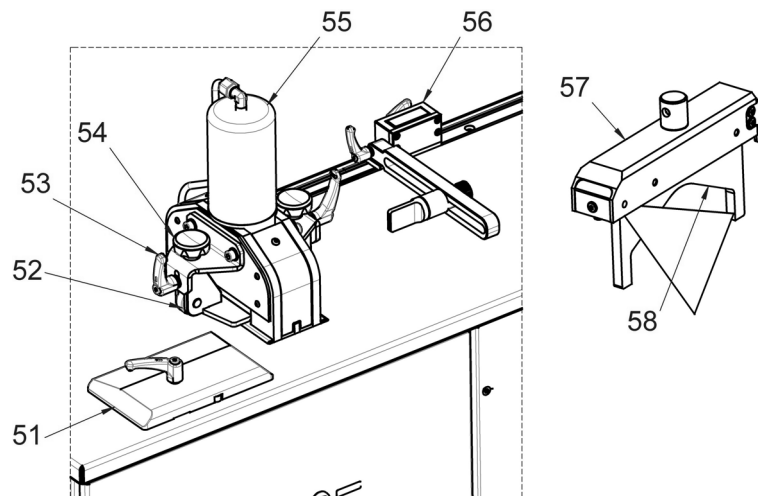

Fig. 9: Cutting busbars
- Release the clamping lever on the side guide plate (fig. 9, 51) and adjust the guide plate to the width of the busbar.
- Release the clamping screws (fig. 9, 54) and locking lever (fig. 9, 53) of the two retainers, and adjust the retainer to the material thickness of the workpiece. The correct setting of the guide plates and retainers ensures a better cutting result.